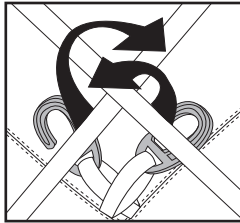

Figure 7A
7. Trail Dome 4 only. Attach the two larger clips located at the top of the tent (Fig. 7A and 7B).